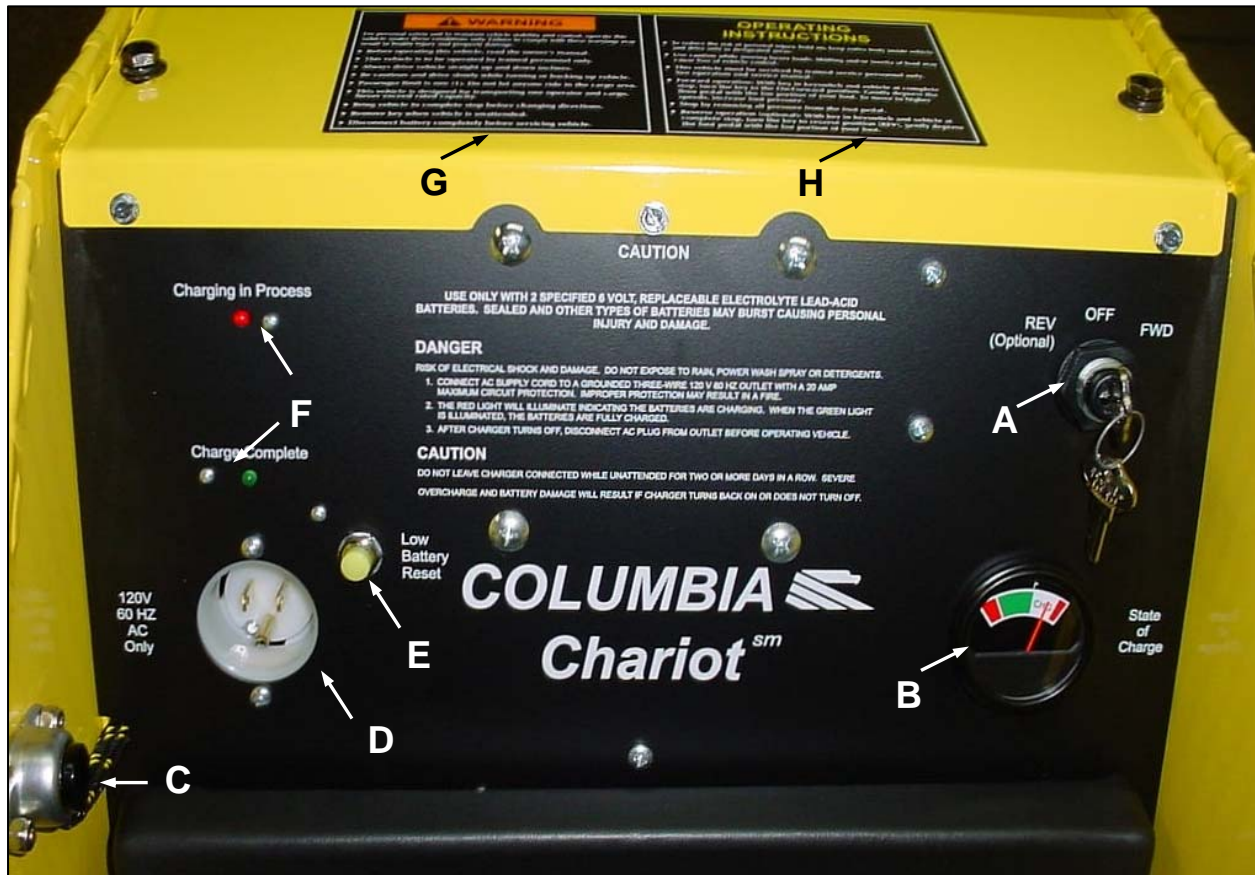

Figure 2.5.1
This section describes the operating controls of the vehicle. Figure 2.5.1 identifies the locations of many of these controls.
### 2.5.1 KEYSWITCH – Fig. 2.5.1 A
**2.5.2 BATTERY STATE OF CHARGE METER – Fig. 2.5.1 B**
**2.5.3 HORN BUTTON – Fig. 2.5.1 C**
**2.5.4 CHARGER RECEPTACLE – Fig. 2.5.1 D**
**2.5.5 LOW BATTERY RESET SWITCH – Fig. 2.5.1 E**
**2.5.6 CHARGING STATUS LIGHTS– Fig. 2.5.1 F**
**2.5.7 WARNING LABEL and OPERATING INSTRUCTION - Fig. 2.5.1 G & H**